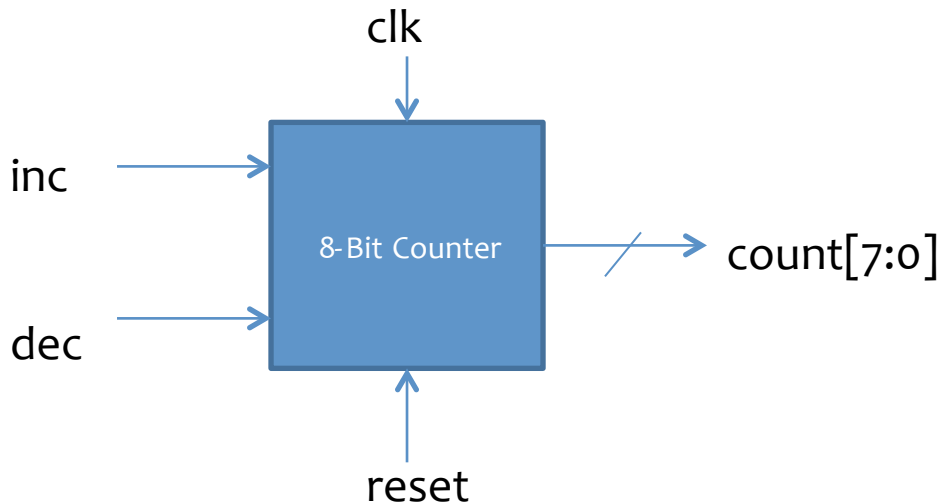

Figure 3. Block diagram of an 8-bit counter
- A. Design an 8-bit counter: The counter has two inputs (inc and dec). When inc = 1, the counter is incremented by 1. When dec = 1, the counter is decremented by 1. The block diagram is shown in Fig. 3. Write the Verilog code and test it through Vivado simulation.